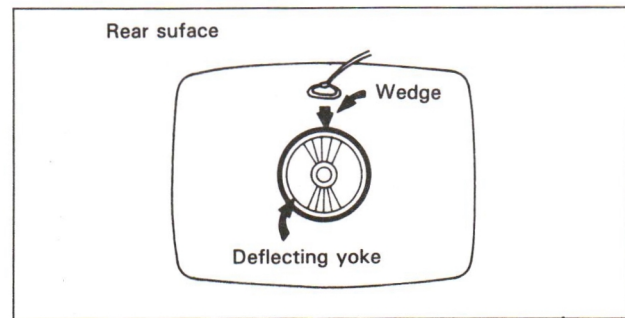

Fig. 2
2. Moving the deflecting yoke up and down and to the right and left, adjust the convergence around the periphery. Also, temporarily place a wedge on the upper part of the deflecting yoke. (Fig. 2)